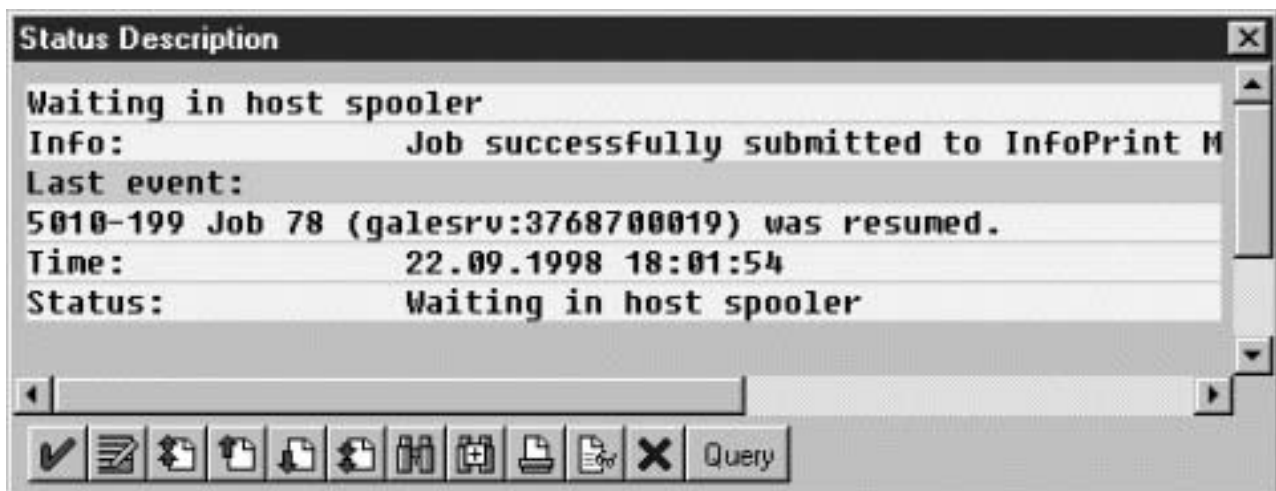

Figure 16. SAP R/3 Status Description window
2. From the Status Description pop-up window (see Figure 16), you can see current information about the job, including the last event received.